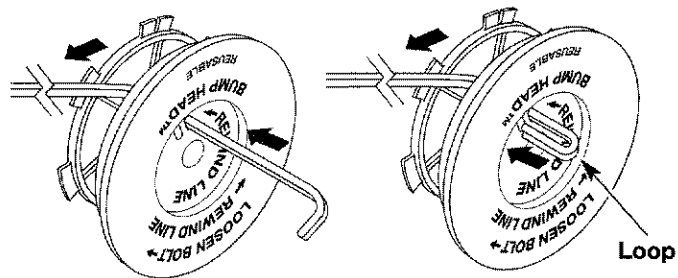

Fig. 37
- Take approximately 15 feet (4.57 m) of new trimming line. Insert one end of the line through one of the two holes in the inner reel (Fig. 37). Pull the line through the inner reel until only about 4 inches is left out.
- Insert the end of the line into the open hole in the inner reel and pull the line tight to make the loop as small as possible (Fig. 37).